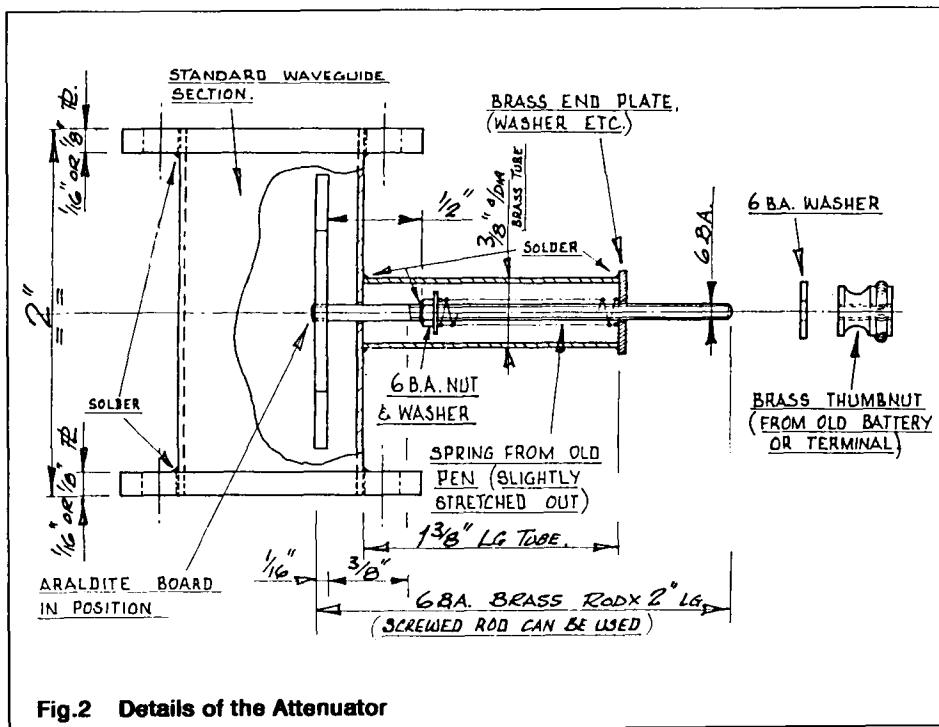

Fig.2 Details of the Attenuator
- 5) Two 6BA nuts, two washers, and a small spring out of an old Biro pen. (See Fig.2).